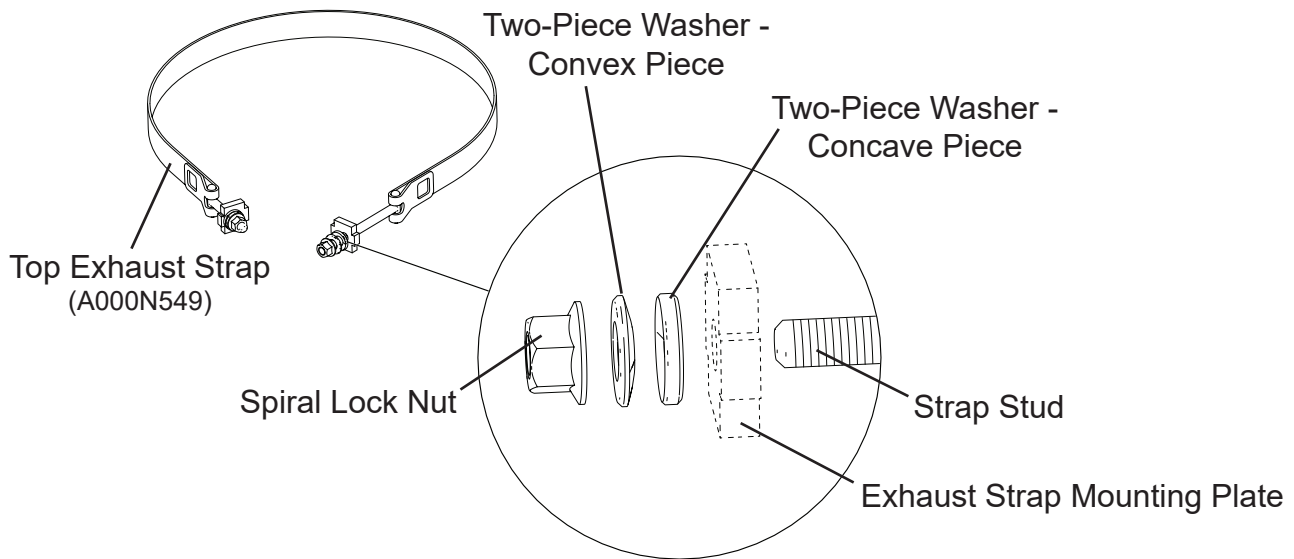

Figure 3
6. Install two-piece washers (A000W352) on exhaust strap studs against mounting plates installed in Step 5, see Figure 3. Install flat side of the concave piece against exhaust strap mounting plate. Install flat side of the convex piece away from the exhaust strap mounting plate, see Figure 3.
7. Install spiral lock nuts (A000A690) on exhaust strap studs, see Figure 3. Tighten both spiral lock nuts evenly so equal amounts of stud threads protrude. Final tighten spiral lock nuts to 14 ft. lbs.